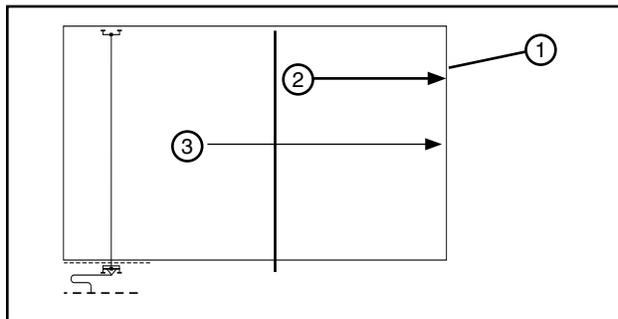

Figure 38-3 1. Field
1. The percentage timer is set at the desired application rate and the system is started at one end of the field and run wet (irrigating) to the other end of the field. See Figure 38-3.